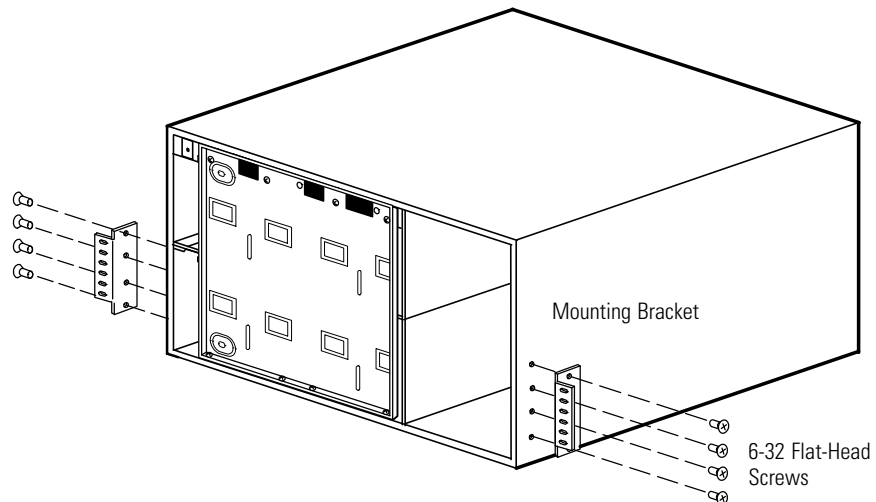

Figure 22. Installing the UPS Mounting Brackets
- If the mounting brackets are not already installed, align the two mounting brackets with the screw holes on the sides of the UPS and secure with the supplied 6-32 flat-head screws (see Figure 22).